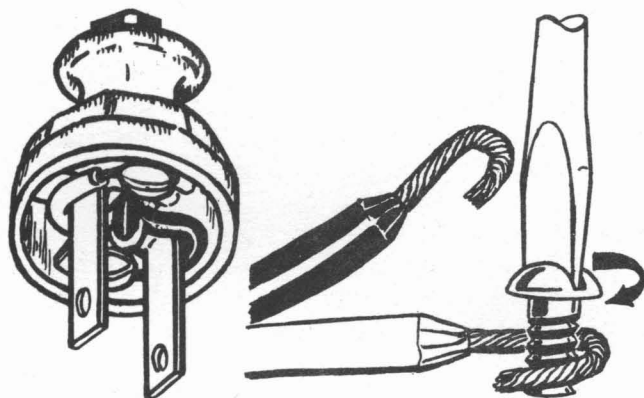

Figure 2 (Attaching Cord to Plug)
5. Twist exposed strands of each wire tightly to make a good conductor, and place each conductor around its proper terminal in the direction in which the screw tightens (Figure 2).